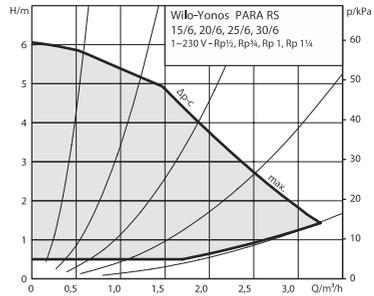

Fig. 8  $\Delta p$ -v, variable differential pressure
**Constant differential pressure ( $\Delta p$ -c):** The knob for the control mode  $\Delta p$ -c is set on the right of the middle position. The differential-pressure setpoint H is kept constant over the permitted volume flow range at the set differential-pressure setpoint up to the maximum pump curve. his control mode is recommended for underfloor-heating circuits. See Fig. 8 above